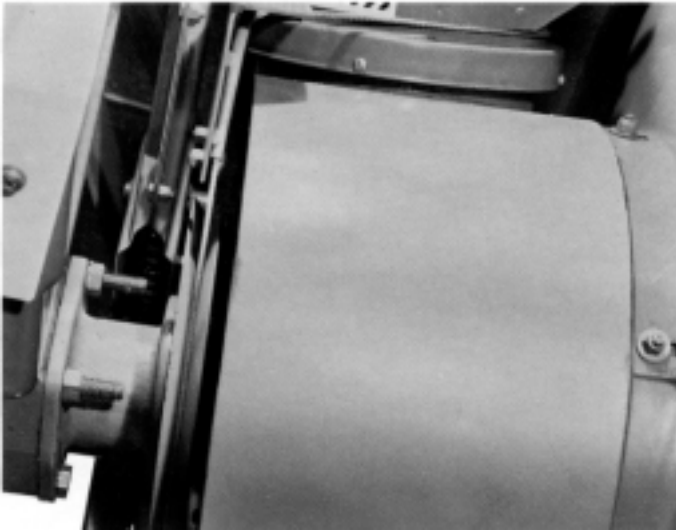

Figure 32
The Snowblower Drive Housing mounts to the front of the Tractor, using two bolts and two nuts. When attaching to the Tractor, the Chute Control Crank should be attached to the top Sprocket Housing Shaft of the Snowblower with the Rubber Connector and two (2) Clamps which are provided. See Figure 32.